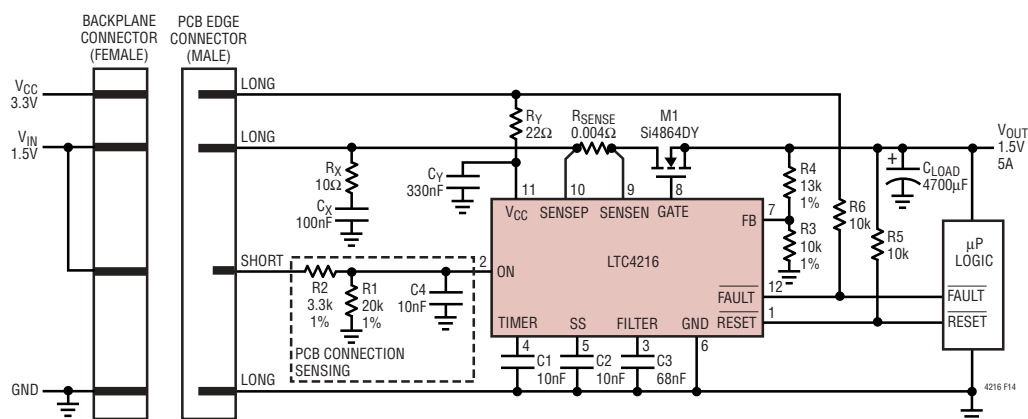

Figure 14. Single Channel 1.5V Hot Swap Controller
The LTC4216 can be used on either the backplane side of the connector or a printed circuit board, and examples for both are shown in Figure 14 and 15. Printed circuit board edge connectors with staggered pins are recommended as the insertion and removal of circuit boards will sequence the pin connections. Supplies (V_{CC} and SENSEP) and ground connections on the printed circuit board should be wired to the long pins or blades of the edge connector. Control signal (ON) and status signals (RESET and FAULT) passing through the edge connector should be wired to short pins or blades.
An example is shown in Figure 14, in which the LTC4216 is mounted on the PCB and the R1/R2 resistive divider is connected to the ON pin. On the edge connector, R2 is wired to a short pin. Before the connectors are mated, the ON pin is held low by R1, keeping the LTC4216 in an off state. When the connectors are mated, the resistive divider is connected to the load supply (V_{IN}) and the ON pin voltage rises above $0.8V$, turning the LTC4216 on.